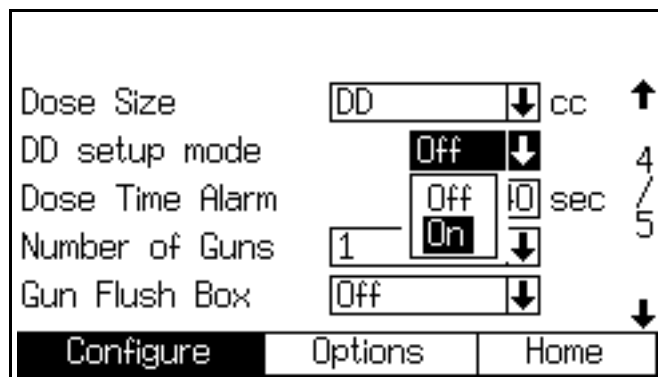

FIG. 55. Configure Screen 4, dynamic dosing setup mode enabled
3. Selecting "DD" in System Configure Screen 4 makes the DD Setup mode available. See FIG. 55. To enable DD setup mode, select On in the DD Setup mode drop down menu. This disables Off Ratio alarms E-3 and E-4, allowing uninterrupted setup and tuning.